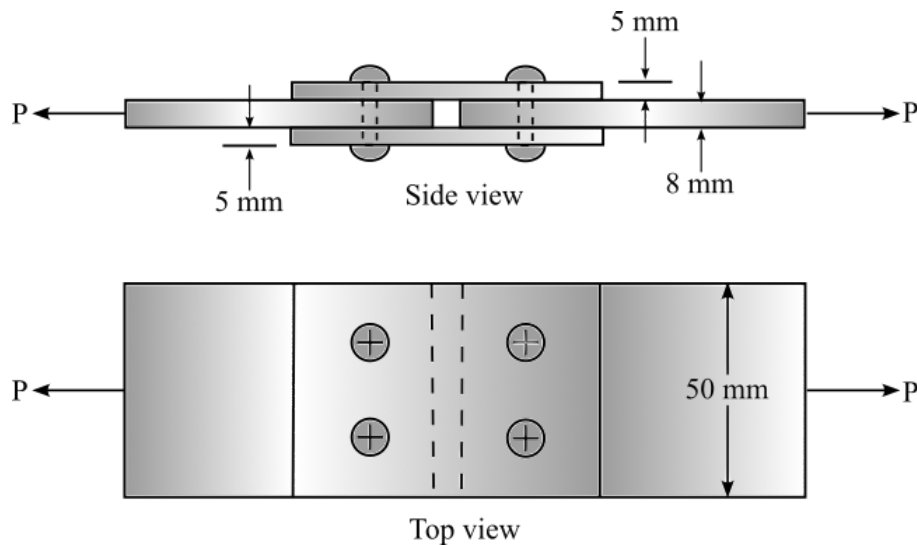

Figure 1 (a)
1. (a) The butt joint of Figure 1 (a) is fastened by four 15-mm diameter rivets. Determine the maximum load P if the stresses are not to exceed 100 MPa in shear, 140 MPa in tension, and 210 MPa in bearing. Assume that the load is equally divided among the rivets.
- (b) Double layered tubes are made with an inner tube and an outer tube, which need not be of the same material. Double-layered tubes are widely used for petrochemical plants, power generating facilities and machine parts as they provide greater reliability and resistance to explosion. Figure 1(b) shows the schematic drawing of the double-layered tube with AISI304 stainless steel is used for the inner tube and SS400 carbon steel is used for the outer tube. The tubes are fitted between two walls at ambient temperature 25 °C. The dimension and properties of the tube is given in Table 1(b).